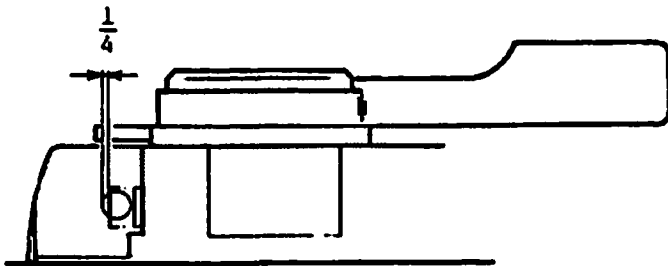

Fig. 141
- 2) At released position, Preventive lever shall appear until it covers the hole more than  $\frac{3}{4}$  as shown in Fig. 141.